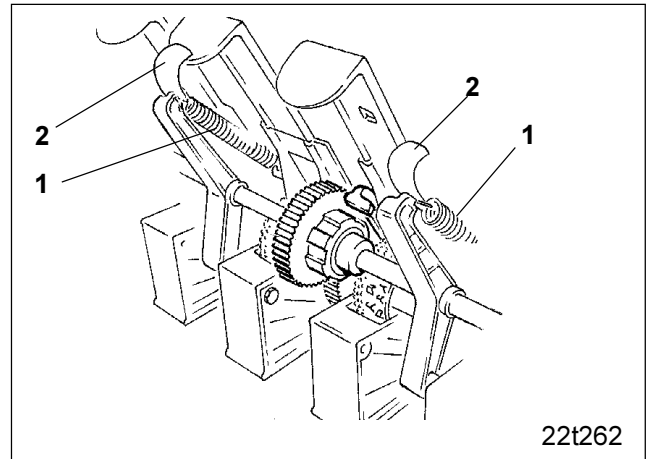
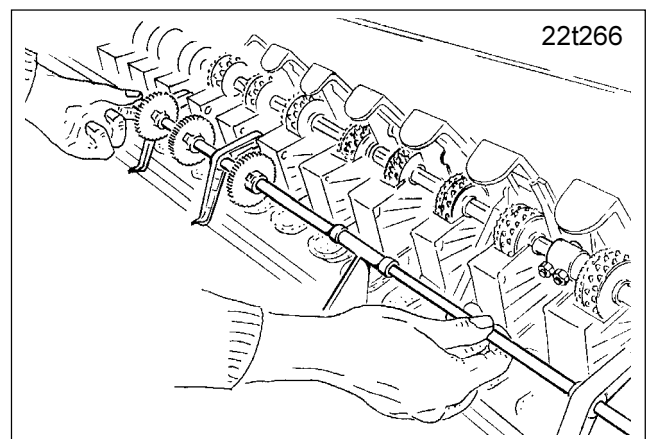

Fig. 10.18
Fig. 10.19
- slacken the tensioning springs (Fig. 10.18/1) and fold down the counter shaft of the seed wheel tramline control (if existent) together with the swivel bearings (see Fig. 10.19).
If no tramlines shall be created, the counter shaft (Fig. 10.19, if existent) may not be folded upwards and shall not catch.